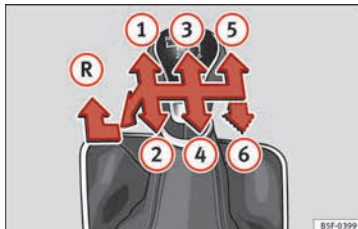

Fig. 53
The position of the gears is indicated on the gearbox lever » Fig. 53.
- With the gearbox lever in neutral, push it upwards, move it to the left as far as it will go and then forwards to select reverse » Fig. 53 .